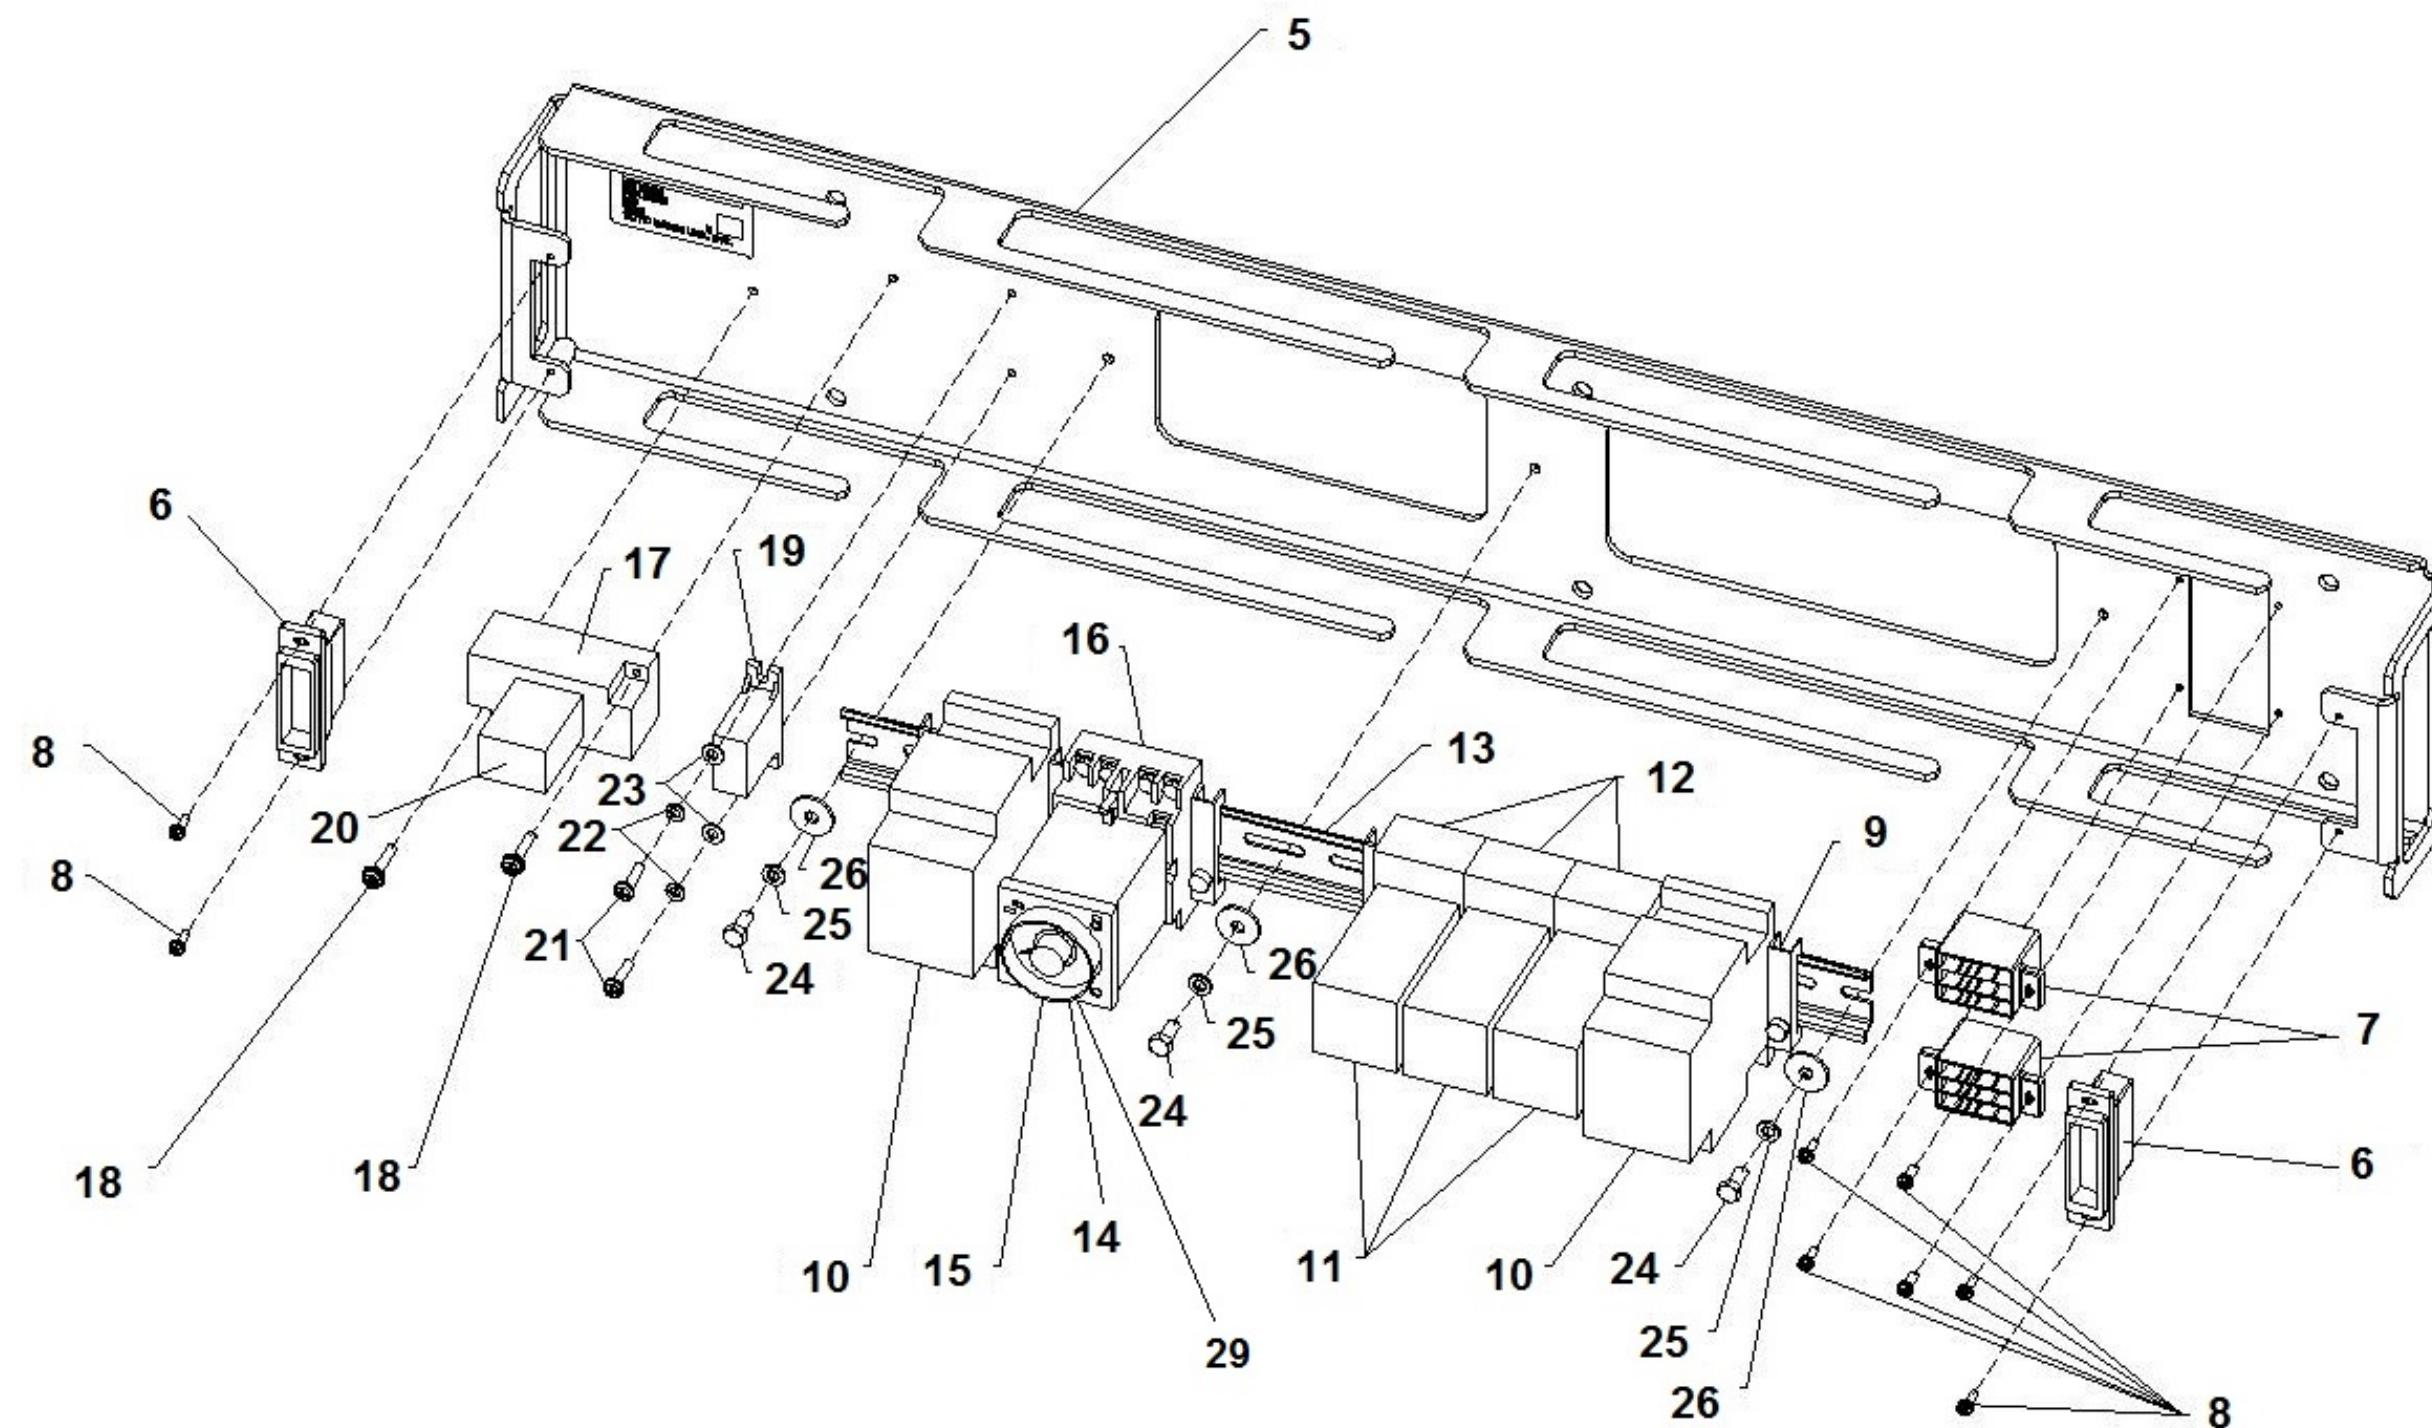

Figure 5-14: Relay Unit Configuration
Remove end plates (9) as shown in Figure 5-14 and slide the relay/sockets out of the DIN rail.
1. Insert the relay/socket to the DIN rail (13) as shown in Figure 5-14.
2. Attach end plates (9) on the DIN rail as shown in Figure 5-14.
3. Tighten the three hex head bolts (24), flat washers (26) and lock washers (25) that secure the DIN rail to the Relay Unit as shown in Figure 5-14. These are M5 bolts. Use an 8 mm socket and torque to 4.4 Nm (39 ft-lbs.).